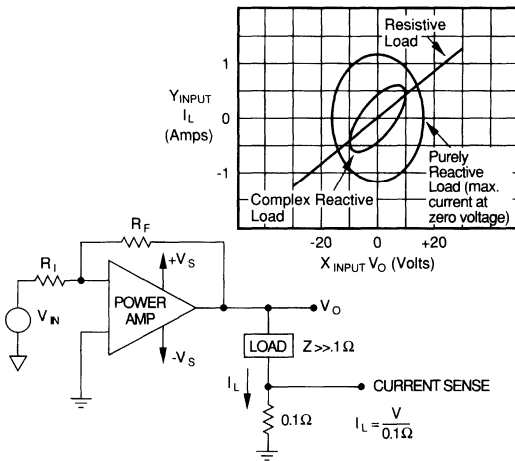

FIGURE 9. AC PD_{OUT}: ELECTRICAL MEASUREMENT METHOD #2
- 4) Plot the points on the SOA curve and check for violations. Refer to Figure 9 for test set-up details.